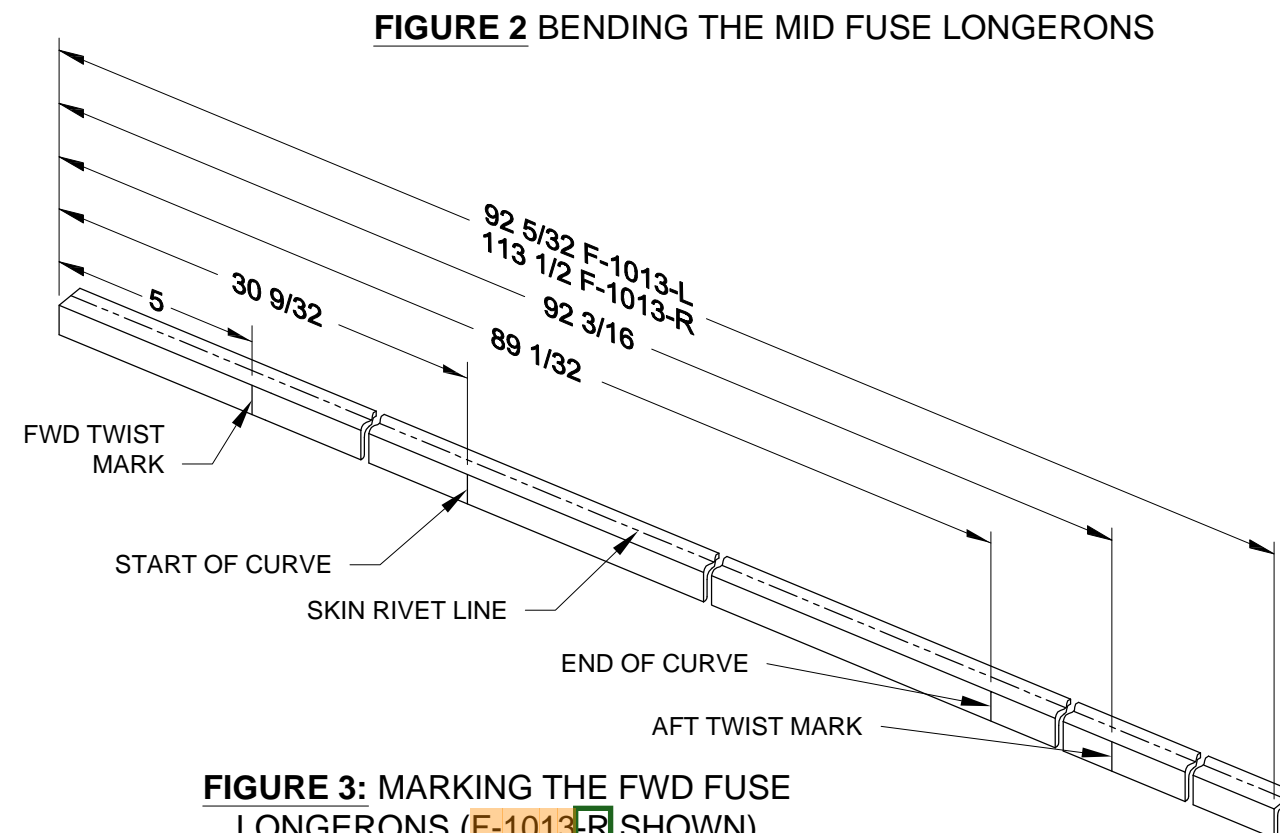

FIGURE 3: MARKING THE FWD FUSE LONGERONS (F-1013-R SHOWN)
Step 7: Mark the **F-1013-L** and **R** Fwd Fuselage Longerons at the four locations shown in Figure 3.
Mark the skin rivet line, shown in Figure 3, on both fwd fuselage longerons.